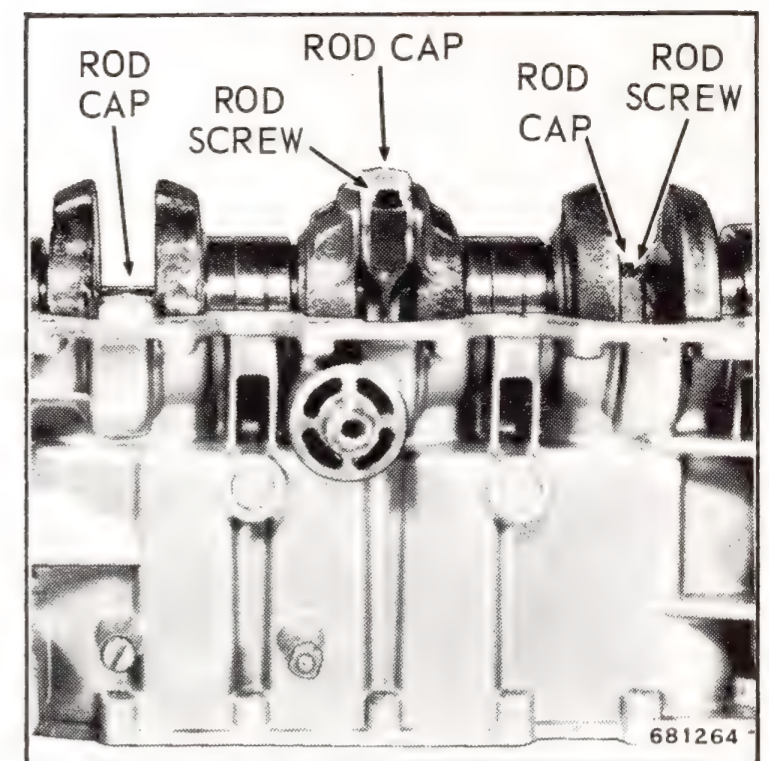

Figure 5-17. Connecting Rods Exposed
d. Use a 5/16 inch, 12 point socket to remove connecting rod screws. Remove rod caps and roller bearings. See Figure 5-17. NOTE: 16 rollers are used at each rod bearing.